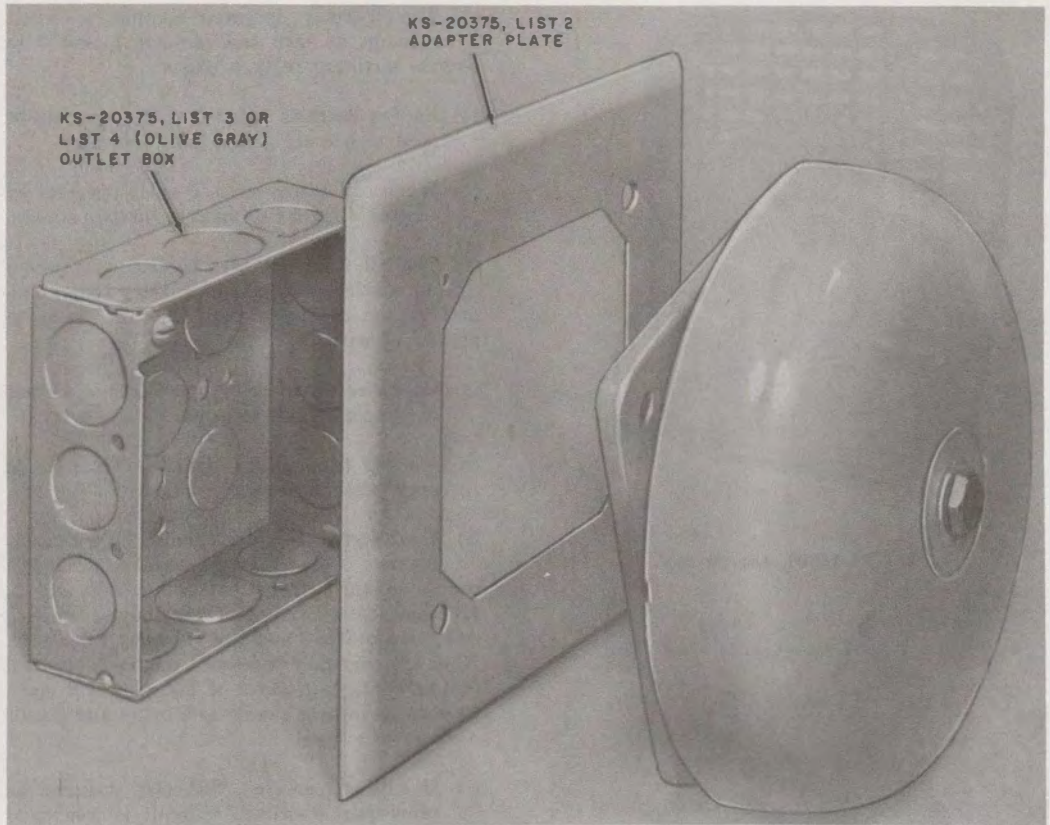

Fig. 17—KS-20375, List 1 Bell, List 2 Adapter Plate, List 3 or 4 (Olive Gray) Outlet Box
**3.15 Signals, KS-20375L1 (Fig. 17):**